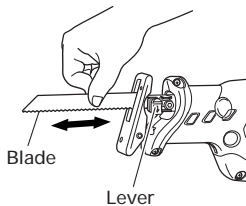

Fig. 6
- (5) Pull the back of the saw blade two or three times by hand and check that the blade is securely mounted. When pulling the blade, you will know it is properly mounted if it clicks and the lever moves slightly. (Fig. 6)